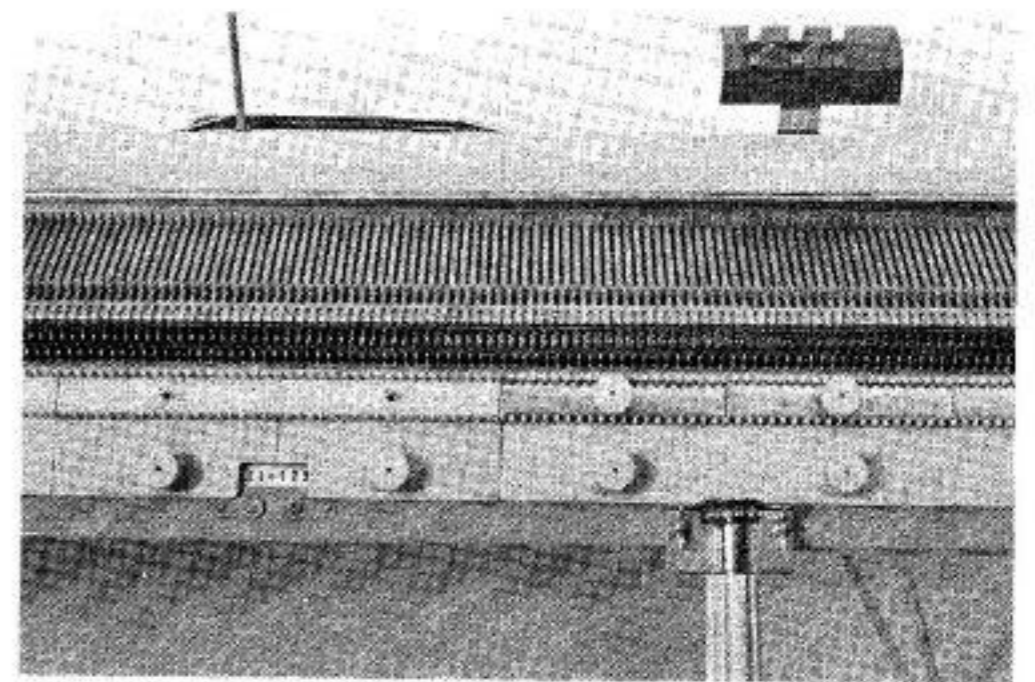

Fig. 12
- (5) Remove V. P. K. unit Cover securing nuts and take off the covers. (See Fig. 12.)